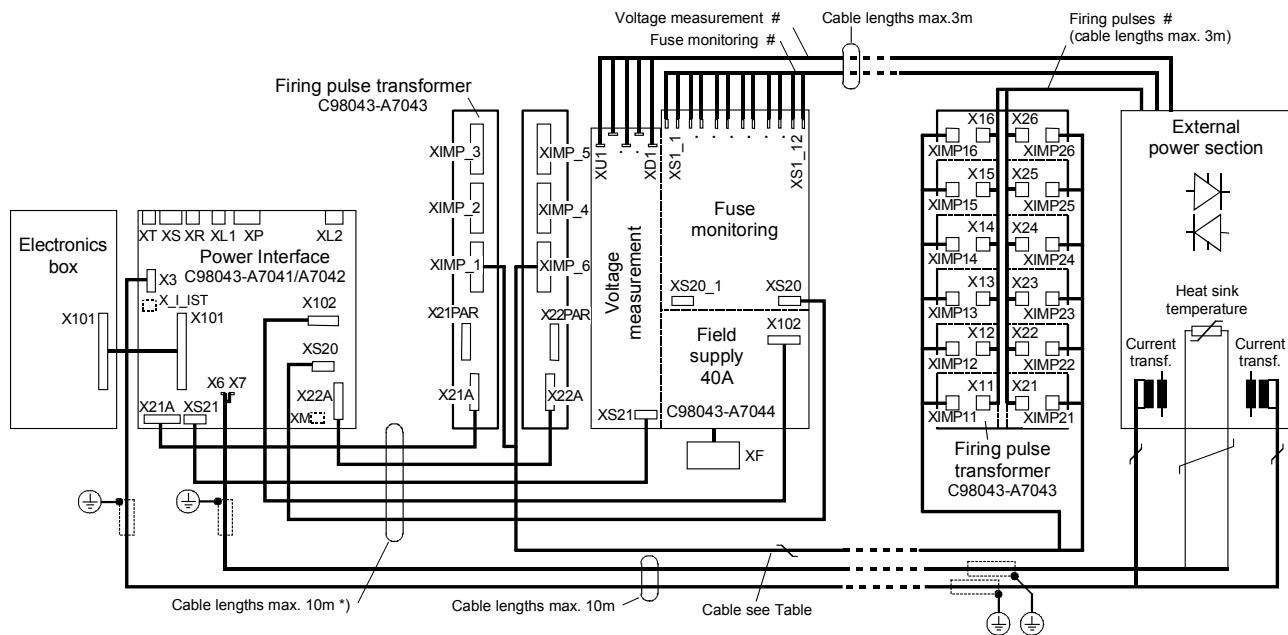

Fig. 6.4.2
- 2. Rear and front trough mounted one on top of the other or separately, module C98043-A7043 and separated (firing pulse transformer mounted with power section), module C98043-A7044 not separated (Fig. 6.4.2)**